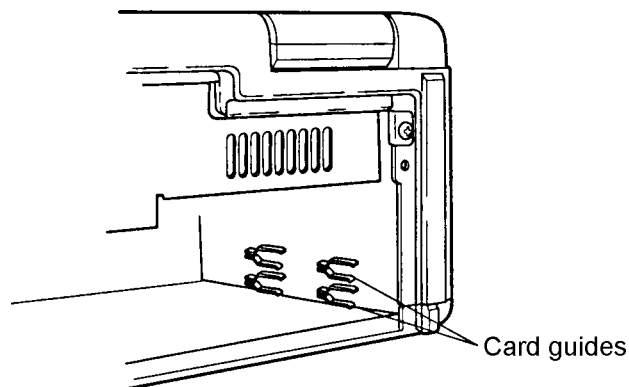

Figure 4-15 Locating the Card Guides
2. Fit the right side of the expansion card into a pair of **card guides**. Note that smaller cards do not use the guides (Figure 4-15).